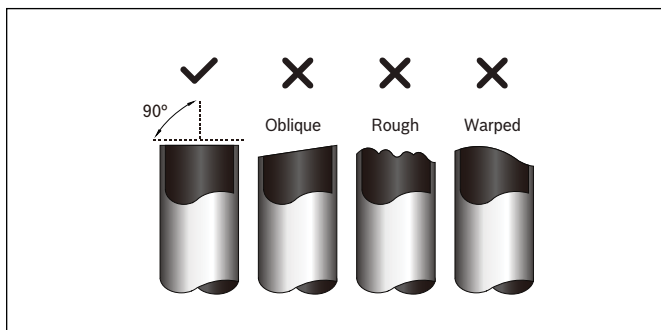

Figure 46
3. Make sure that the pipe is cut at a perfect 90° angle. Refer to Fig.46 for cut examples.